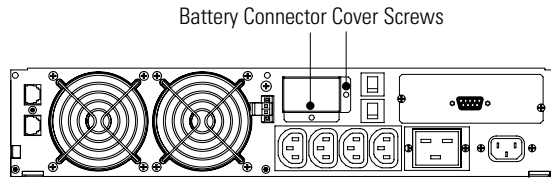

Figure 15. Battery Connector Cover (E/EH UPS Models Only)
4. E/EH UPS models have a battery connector cover that must be removed before installing the EBM(s). Remove the cover from the rear panel as shown in Figure 15.